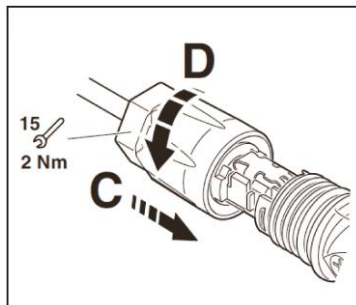

Figure 5-12
6. Push the insert into the sleeve (Figure 5-12, C).
7. Tighten the cable gland to 2 Nm (Figure 5-12, D). Use a suitable and calibrated torque wrench, size 15. Use an open-jaw wrench, size 16, to hold the connector in place.